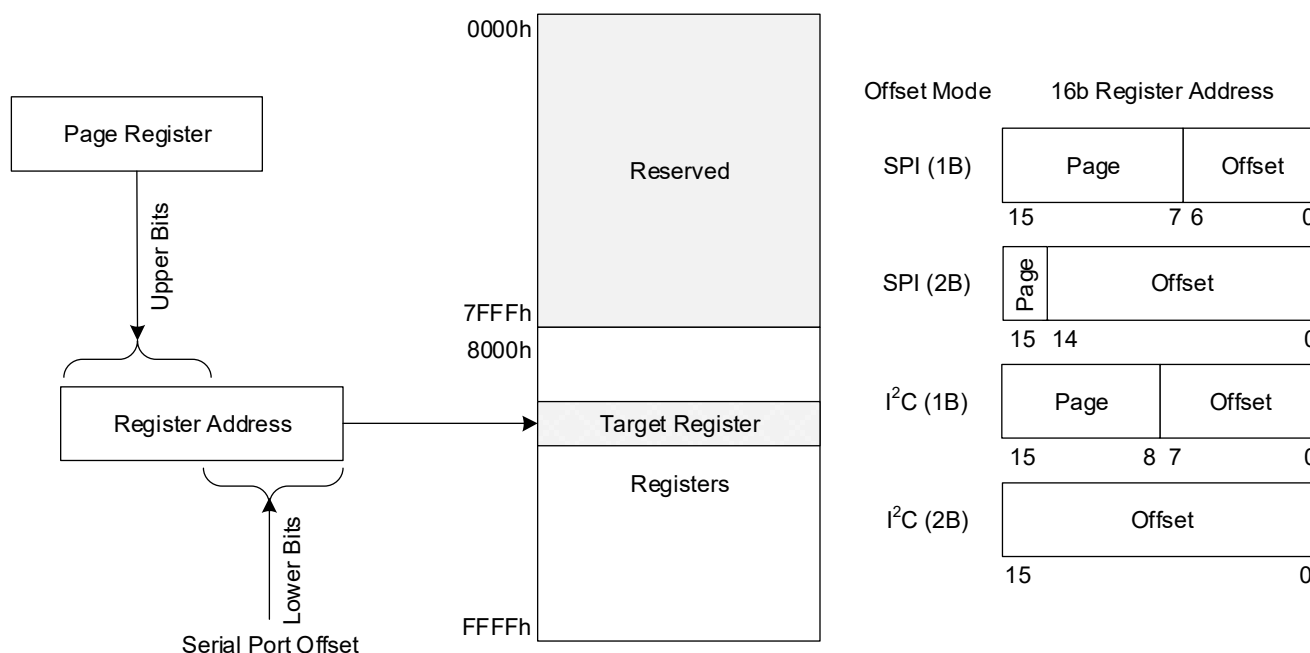

Figure 16. Register Addressing Modes via Serial Port
The user can choose to operate the serial port providing the full offset address within each burst, or to operate in a paged mode where part of the address offset is provided in each transaction and part comes from an internal page register in each serial port. Figure 16 shows how page register and offset bytes from each serial transaction interact to address a register within the RC32112A.
- 1-byte (1B) or 2-byte (2B) offset addressing (see Figure 16)